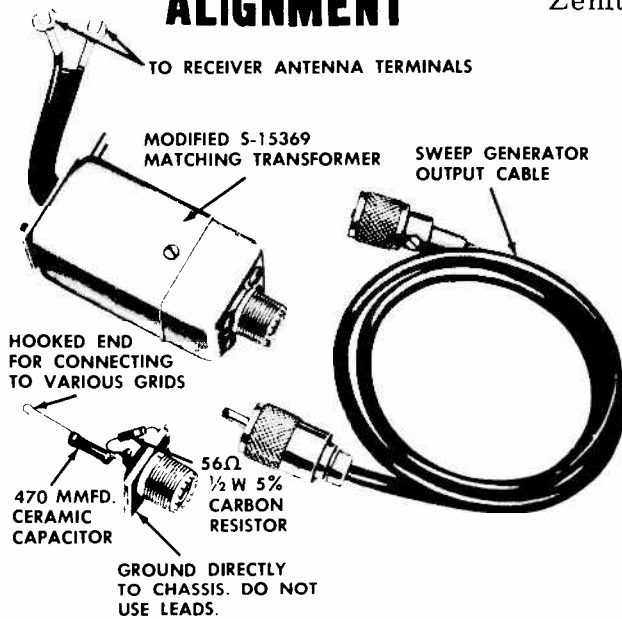
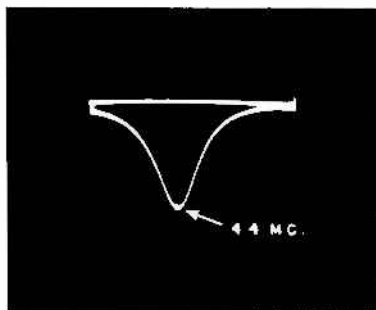

Fig. 11 IF-RF Alignment Fixtures
Fig. 14 4th IF Response
3. Feed the output from the sweep generator through the special termination unit shown in Fig. 11 to point "D" (Pin 1 of 6CB6, 3rd IF). Adjust the generator until a pattern similar to Fig. 14 is obtained.